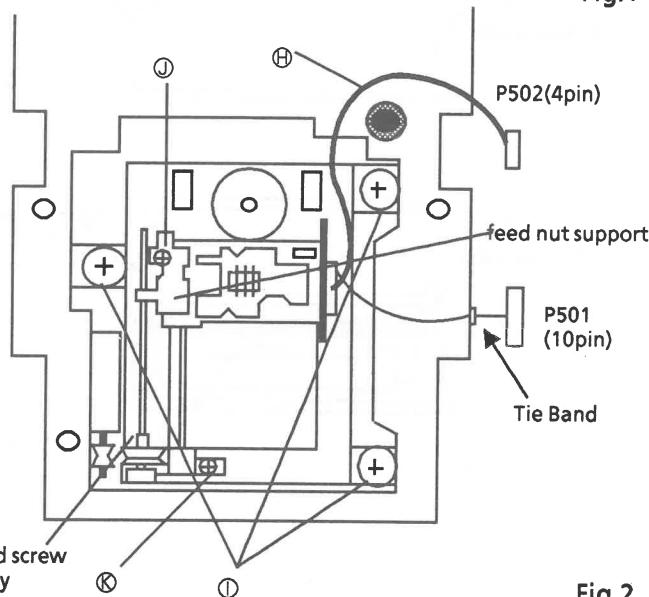

Fig.2
- 5) Slide the changer assembly to arrow direction ①.
Wire ④ should be set as Fig.2.
4. Removing the turntable base (Fig.2)
5. Exchanging the pickup (Fig.2)